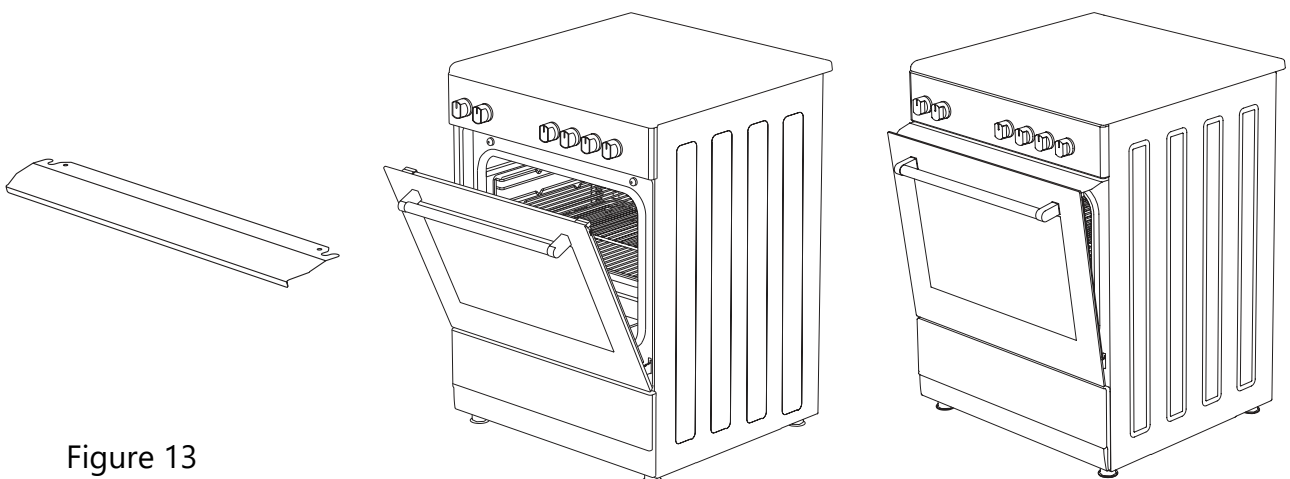

Figure 13
- When using the upper burner in case of the gas ovens, the oven door must be kept open as shown in the Figure 13. This grill sheet will protect the knobs and control panel.